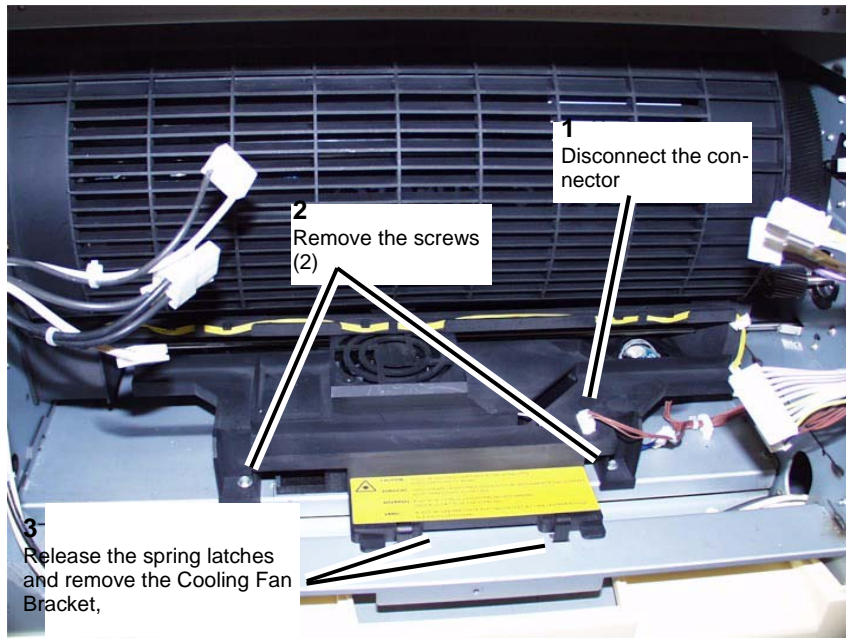

Figure 1 Removing the ROS Cooling Fan Bracket
4. Remove the ROS Cooling Fan bracket. (Figure 1)